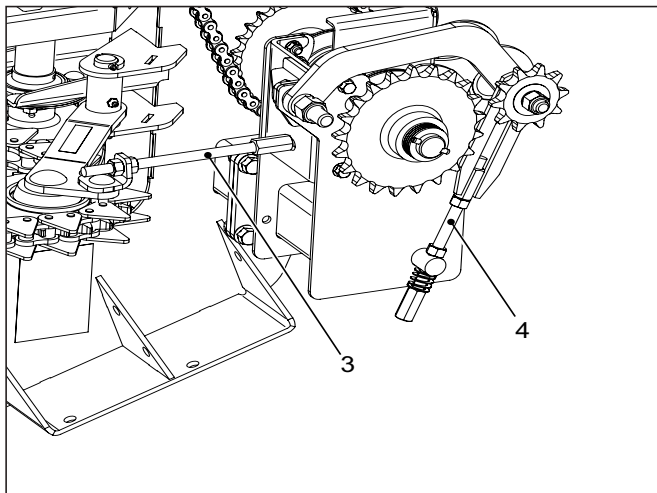

Figure 24 The chain tightener rods - on both sides of machine (3 places)
TIGHTENER ROD LUBRICATION FIGURE 24
Lubricate the tightener rods (items 3 & 4 in figure 24) every 40 hours of operation or at the end of the season, before storage. Use SAE30 oil or equivalent.